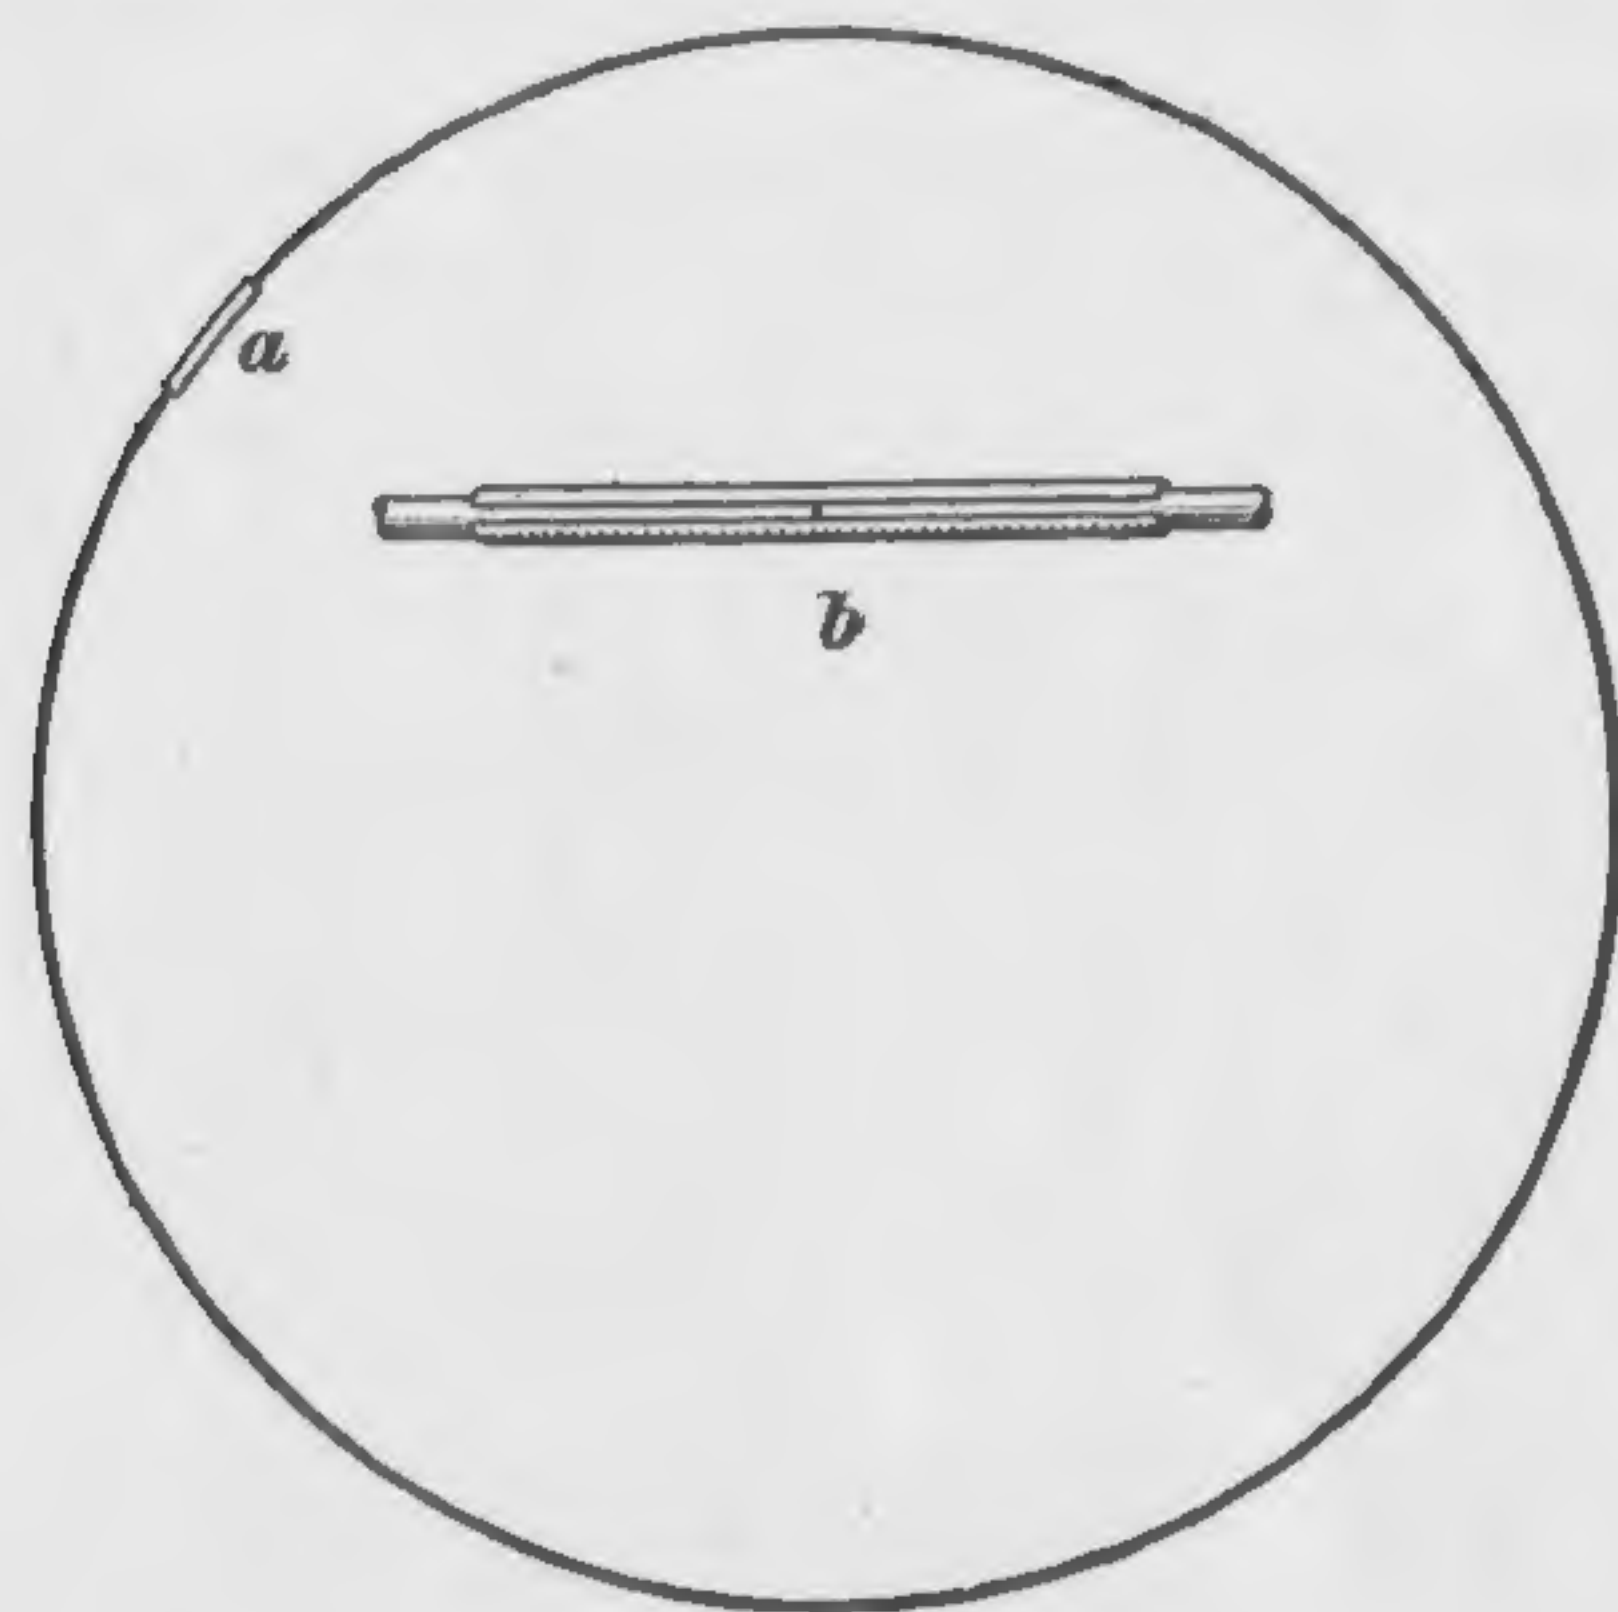

FIG. 2
9. **Spring wire** is strong and elastic and is used for the edge wire of very large hats and also for making medium-sized and large hats with brims in which no brace wires are used. The ends of the wire are not bound with tie wire but are slipped into a clip, or clamp, as shown at *a*, Fig. 2. An enlarged view of the clip with the ends in place is shown at *b*.